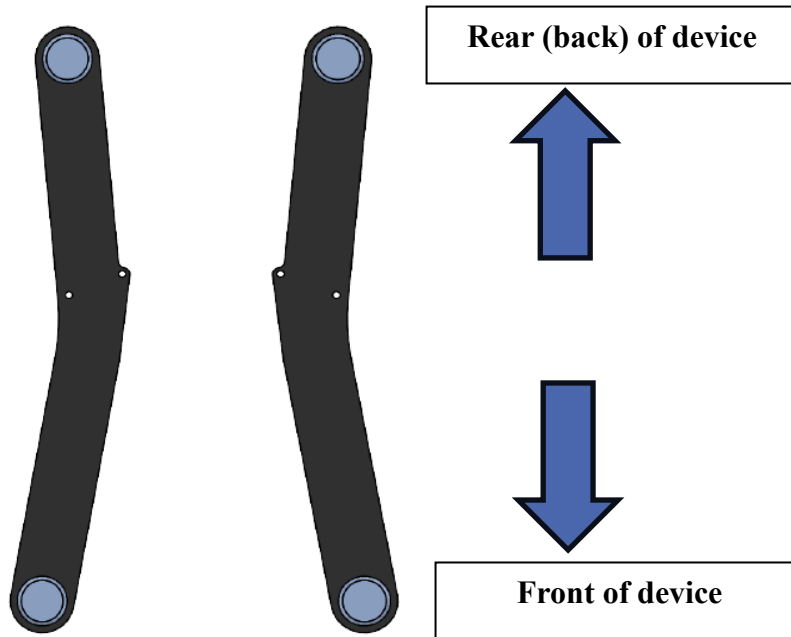

Figure 1: Feet
- b. **Feet** (2) - found in the top and bottom foam shock absorbers or taped to the inside of cardboard crate: see Figure 1: Feet.